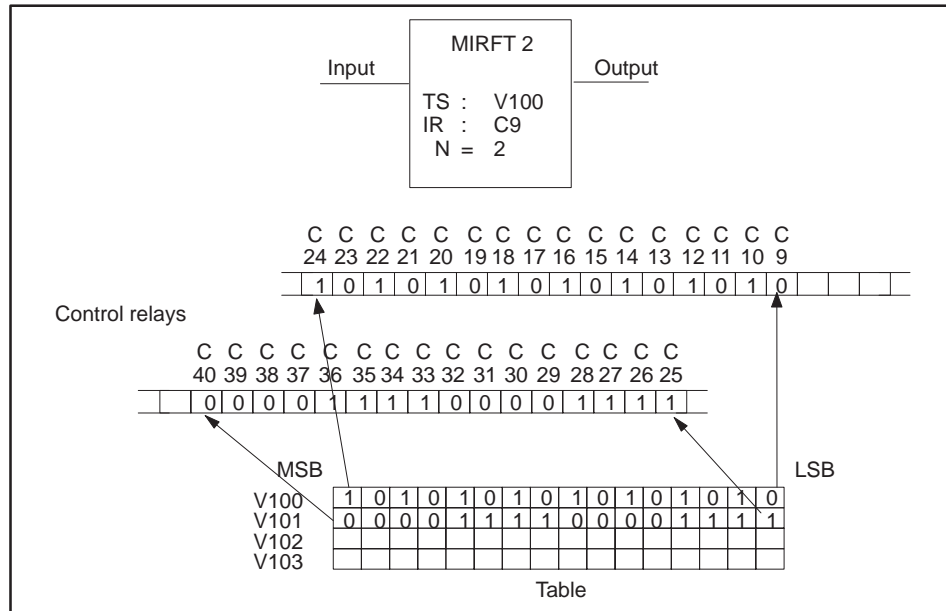

Figure 6-43 Example of MIRFT Operation
**MIRFT Operation** When the input is on, the MIRFT box executes. If the input remains on, the operation executes every scan. The operation of the MIRFT follows and is illustrated in Figure 6-43.
- The values of up to 256 (N) words (16–4096 bits) are copied, starting at the memory location specified by TS.